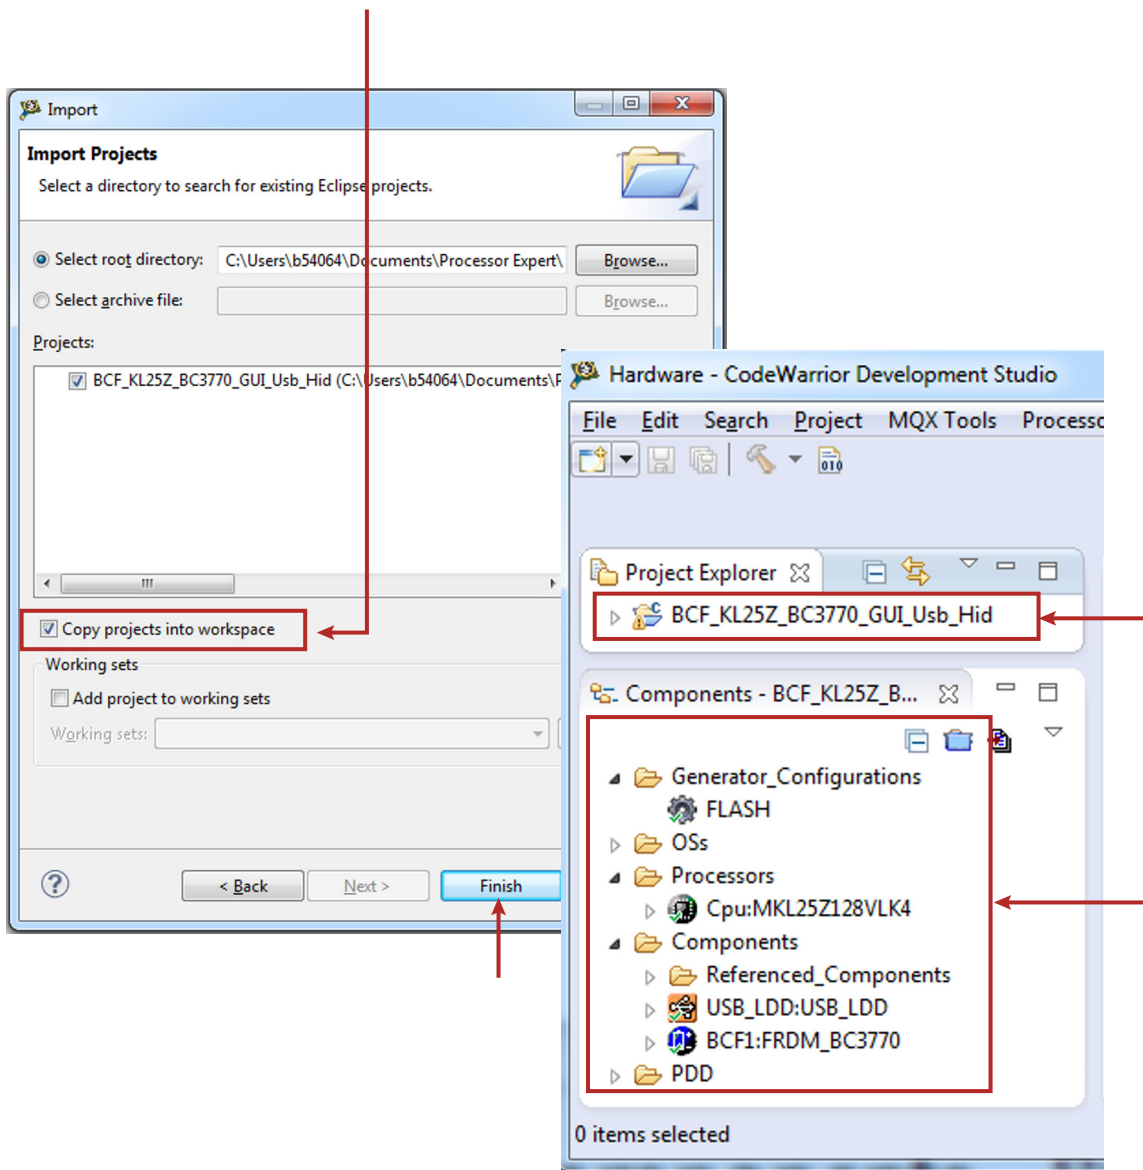

Figure 22. Importing an example file (c)
3. With your project now loaded in the **Select root directory** box, click on the **Copy projects into workspace** check box. Then click **Finish**. Figure 22 shows the CodeWarrior **Projects** panel and the **Components** panel after the project has been successfully imported.